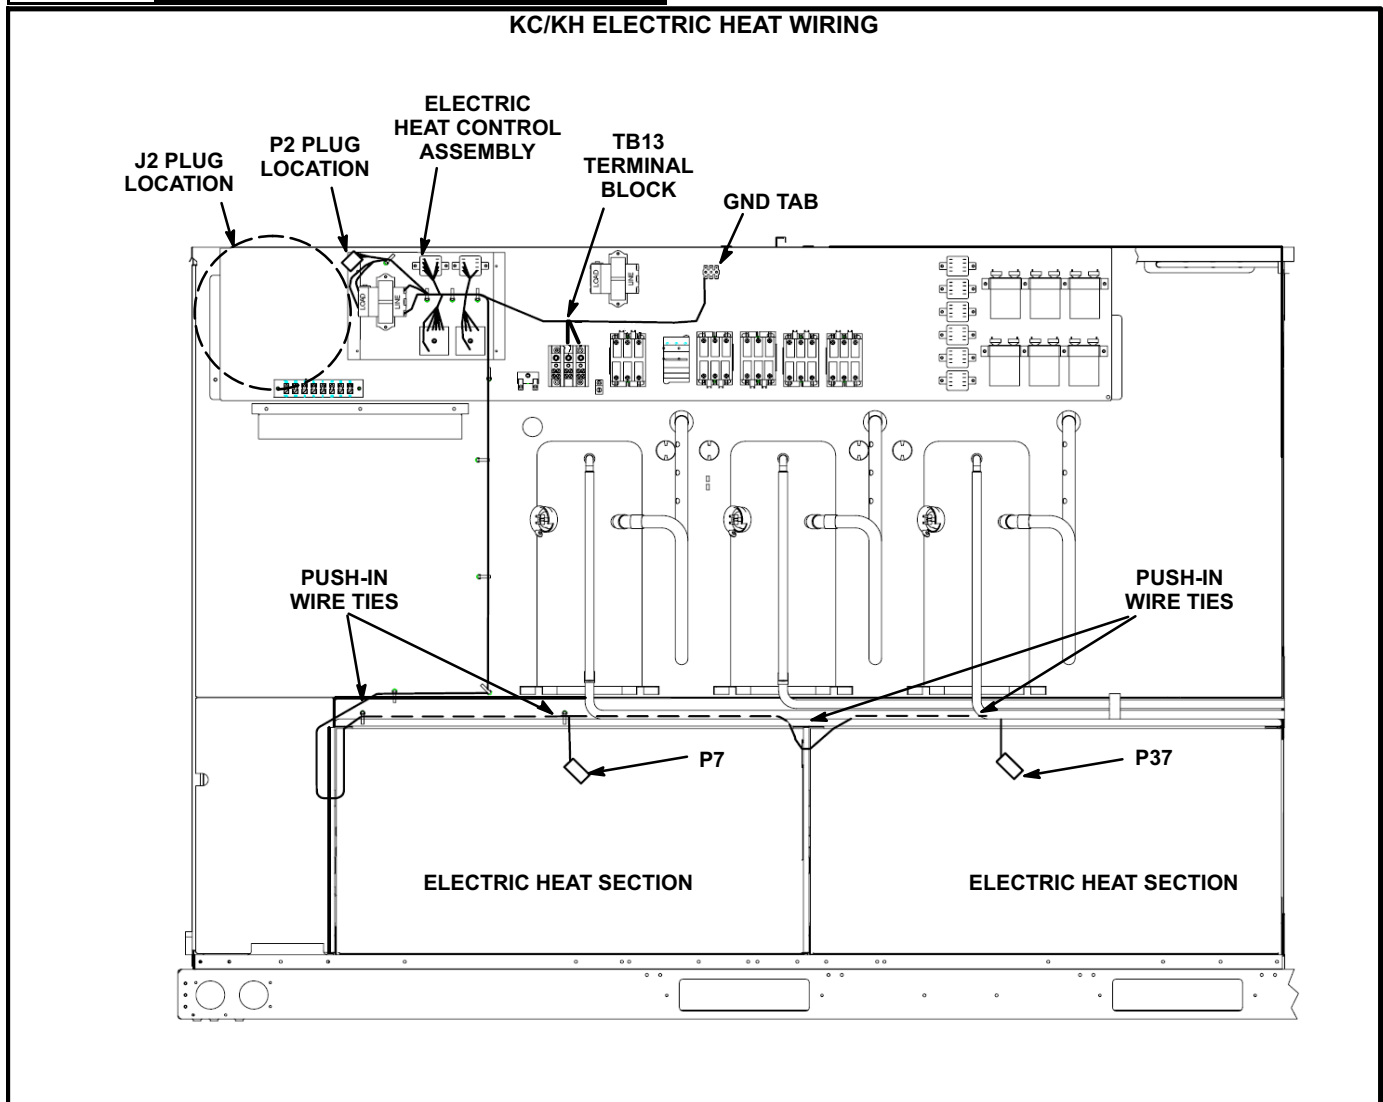

FIGURE 2
Install electric heat control module in control area as shown in figure 2. Secure with #8 thread forming screws (provided).
Refer to figure 2.
- 5- Route wires marked "P7" and "P37" to the location shown in figure 2 and secure harness with wire ties provided.
- 1- Locate and disconnect J7 and J37 jumper plug from harness. See figure 2.
- 3- Route P37 to the right heat section as shown in figure 2.